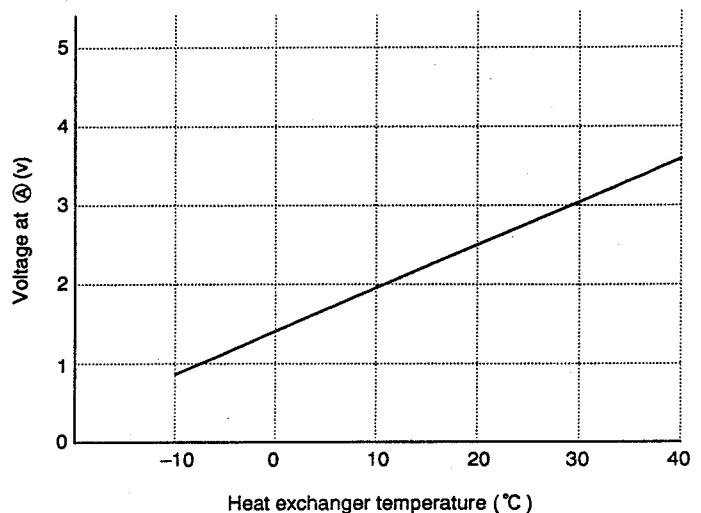

Fig. 6-2
- (1) Preheating.
- (2) Low-temperature defrosting during cooling and dehumidifying operation.
- (3) Detection of the reversing valve non-operation or heat exchanger temperature thermistor open.
The voltage at ④ depends on the heat exchanger temperature as shown in Fig. 6-2.